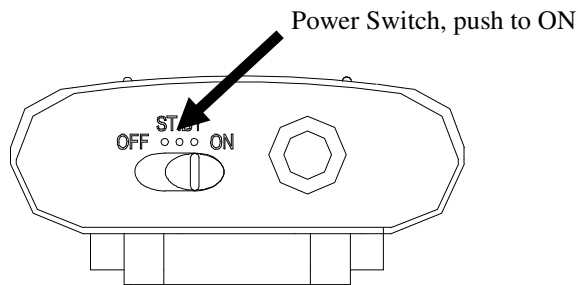

Figure 5.1
- 5.2 Push the Power Switch on the Transmitter to ON as shown in figure 5.1, and the Power LED will light up red, it indicates the Transmitter is on. When the microphone connection status LED on the Receiver lights up red, it indicates the Receiver has already picked up the signals from Microphone, so you can now talk to the microphone.